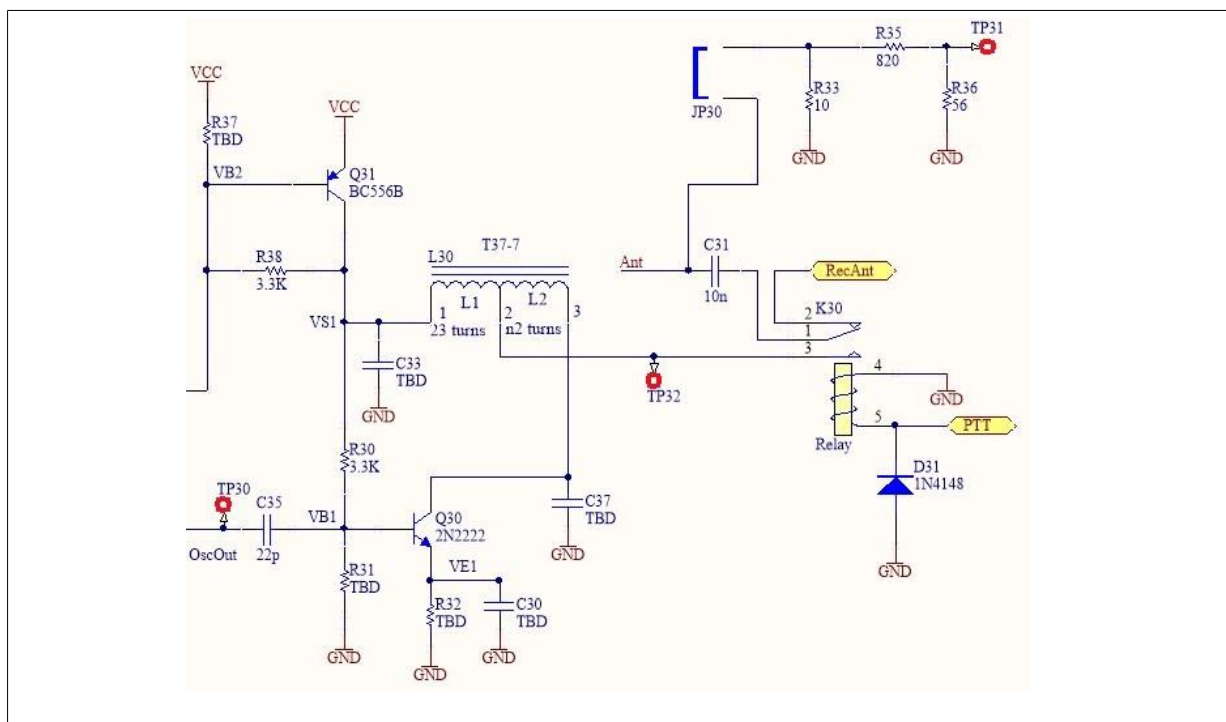

Figure 5: Schematic of transmitter amplifier.
1. The tuned RF amplifier to be mounted is the transmitter (TX) amplifier operating at 27 MHz. This circuit is given in Fig. 5. L30 is a tapped inductance. The number of turns of L2 is determined in the preliminary work. It is supposed to transform the impedance of 10Ω to the optimum load resistance of the transistor. Cut 40 cm of 0.35 mm *enameled* wire to wind L1 and L2 on the T37-7 toroid. T37-7 is a core with an outer diameter of 0.37 inches or 9.4 mm (see p. 382). The windings should be single-layer without scrambles. Randomly wound coils do not perform well. The increased capacitance between the windings has a detrimental effect on the inductance performance. Count the turns of